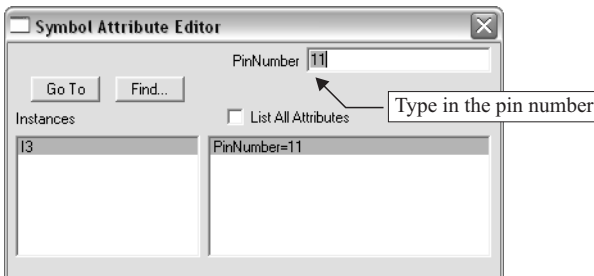

Fig. 29.2.32. Symbol Attribute Editor
- Open the Symbol Attribute Editor from the tool box (see Fig. 29.2.32)